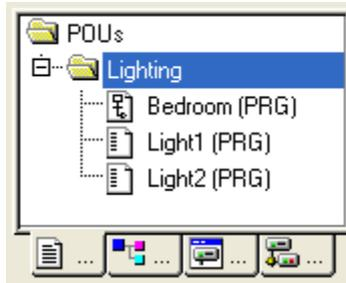

Figure 9-4-4 Use of IEC Steps
- In order to associate the actions with IEC steps, qualifiers are needed. The use of IEC steps is shown in figure 9-4-4 and the meaning of qualifier is listed in table 9-4-1.